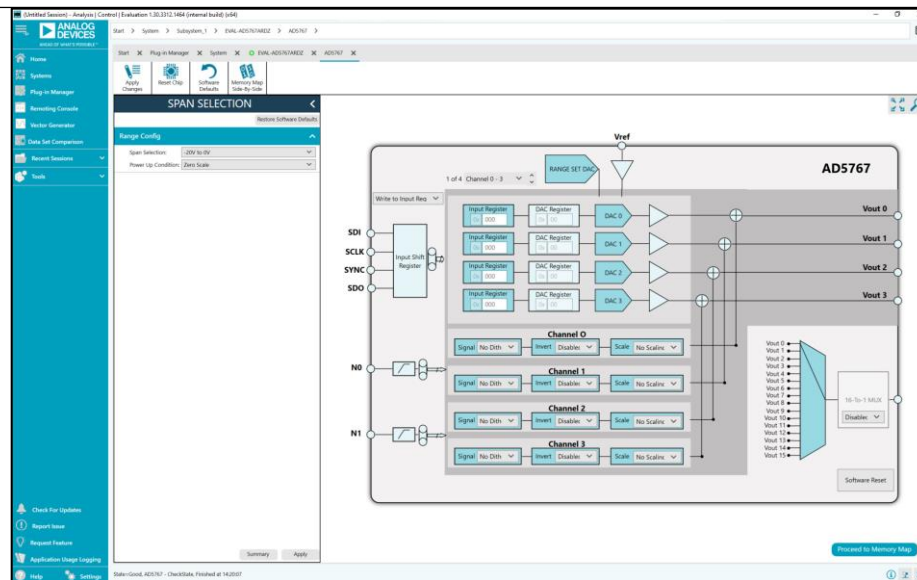

Figure 17 Chip View
2. The Board view should appear. Click on the “AD5767” chip in the middle. After that, the Chip View should be visible. This view includes the UI that you may use to interact with the device as shown in Figure 17 Chip View.